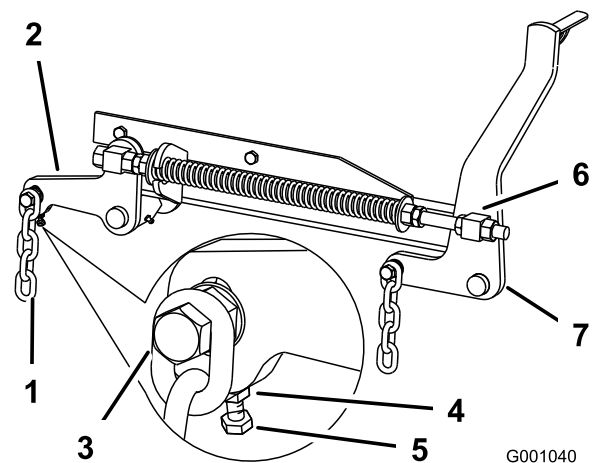

Figure 81
7. If the measurements at positions **B** or **C** are not correct, loosen the bolt attaching the rear chain to the rear support arm (Figure 81).
- Loosen the jam nut under the rear support arm and adjust the adjustment bolt to get a measurement of 3-1/8 to 3-1/4 inches (80 to 83 mm) (Figure 81).
- Loosen the front swivel jam nuts, at the front of the right and left swivels, approximately a 1/2 inch (13 mm) (Figure 81).
(6 to 10 mm) lower in front at **A** than in the rear at **B** (Figure 81).